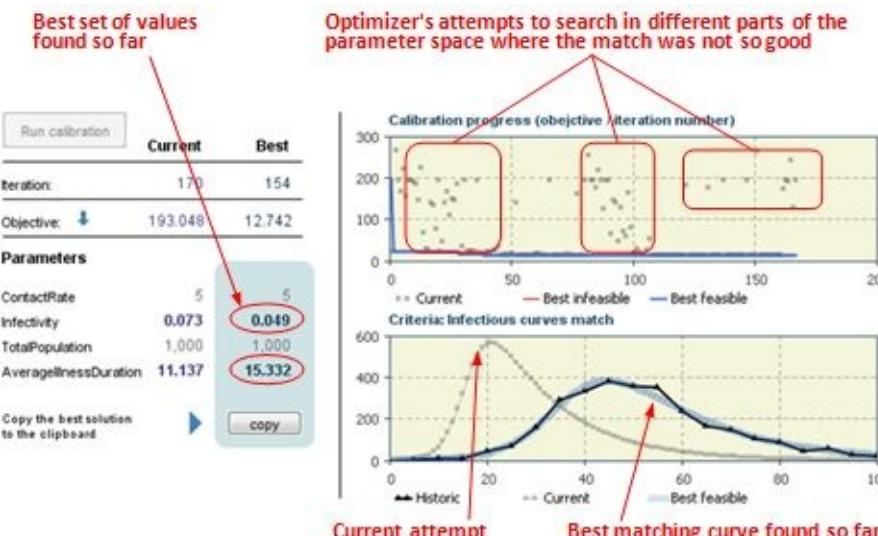

Figure 5.29 Calibration experiment in progress (iteration 170 of maximum 500)
5. In the **Parameters** page of the wizard, choose the three parameters you are going to vary (all except for *TotalPopulation*) and move them to the **Selection** list. Click **Next** and, on the next page, click **Finish**. A new experiment is created, and you can see its default UI with three sliders, see Figure 5.29.
6. Delete the button and some unnecessary graphics, as shown in the same Figure 5.29. You will not need them.
8. Create a plot (drag the **Plot** object from the **Analysis** palette) and add to it the three datasets. Adjust the line colors as you wish, see Figure 5.29.